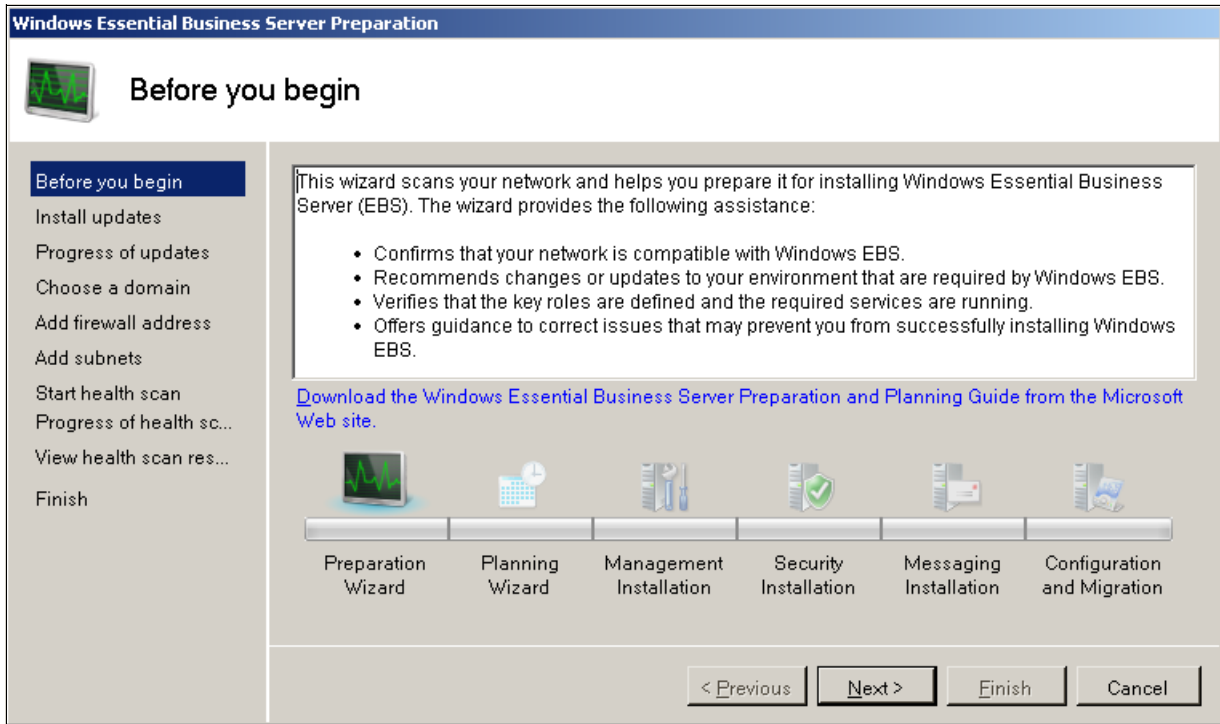

Figure 3-1 Preparation Wizard start
1. Start the Preparation Wizard by double-clicking its icon on the desktop. The “Before you begin” panel (Figure 3-1 on page 69) displays. Click **Next**.